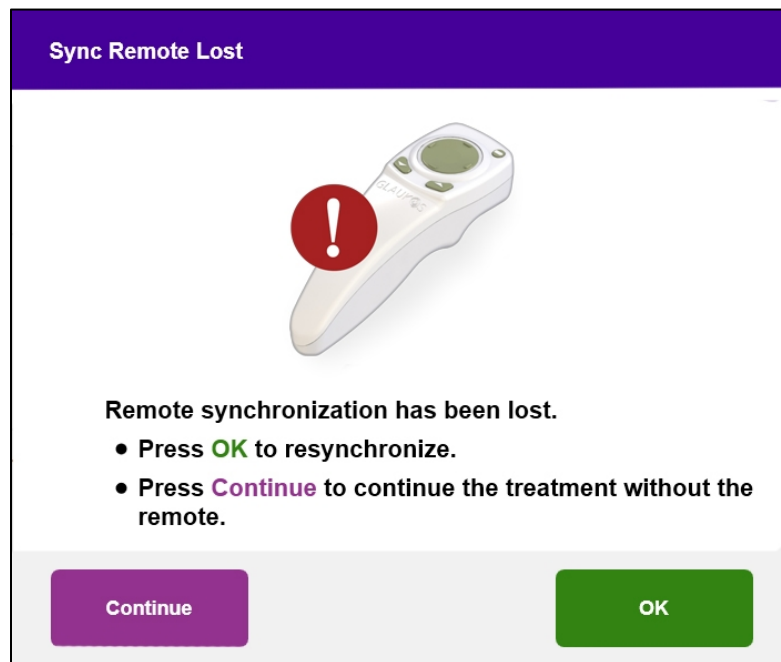

Figure 4-2. Remote Sync Lost Guidance
- If the batteries run low, the system loses its connection with the remote and notifies the user of the need to resynchronize, see Figure 4.2. Press "OK" to resync or press "Continue" without the remote.